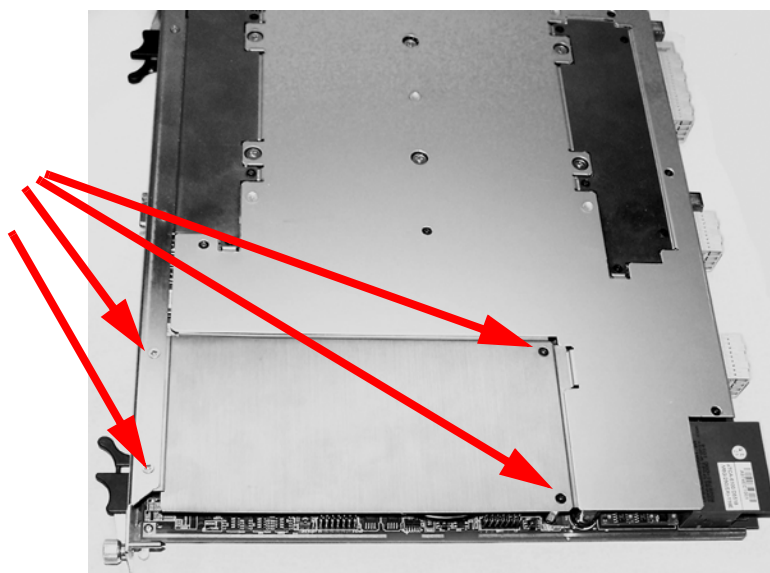

Figure 32 Remove the covers as indicated. Use a #1 Phillips screwdriver.
- 3 Remove the SSD cover from the M9536A as shown in Figure 32